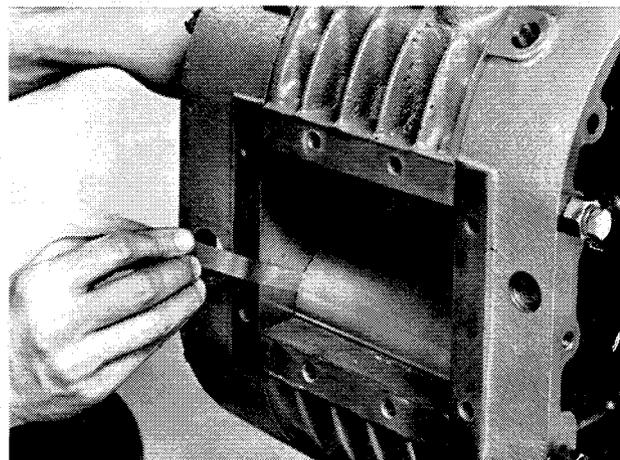

FIGURE 26
- q. Check drive end plate to rotor lobe clearance for each rotor with feeler gages (see Fig. 26). (Drive end clearance for each model is specified in table following Step c of Final Assembly procedure on page 12). If clearance is not within specified limits for each rotor, remove the drive end plate and add or remove shims as necessary to adjust clearance. Reassemble and recheck clearance.
- r. When drive end clearance is correct, temporarily remove the snap rings (26) retaining the drive end bearings.